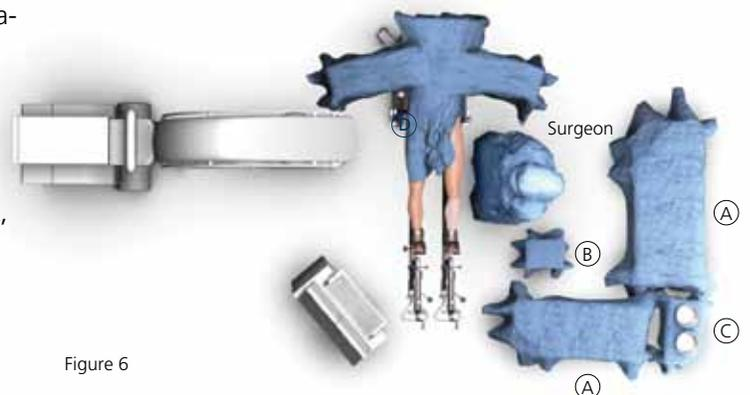

Figure 6
The C-Arm (D) is positioned on the non-operative side, perpendicular to the patient. A typical OR team will consist of the surgeon, physician's assistant, anesthesiologist, scrub nurse, circulating nurse/table operator and X-ray technician (Figure 6).